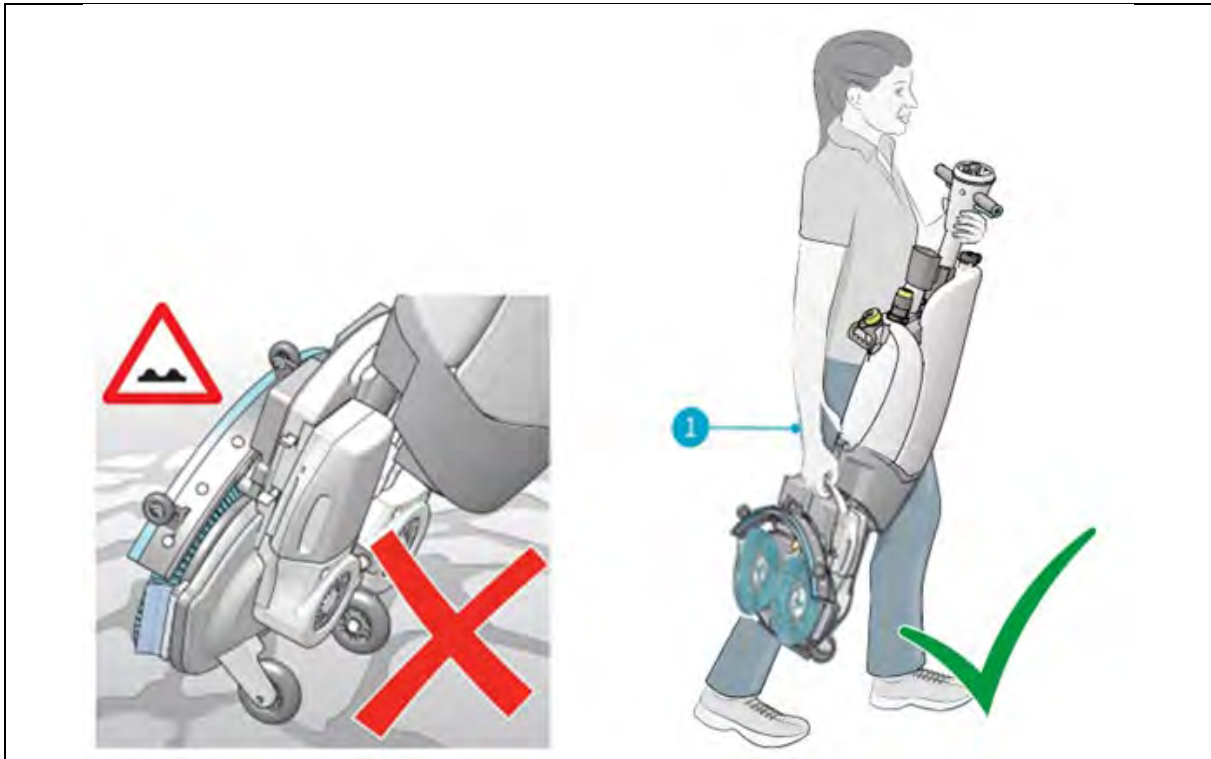

Figure 6
2. Carry the i-mop XL Pro with one hand while holding the handle with your other hand (Figure 6, pos. 1).